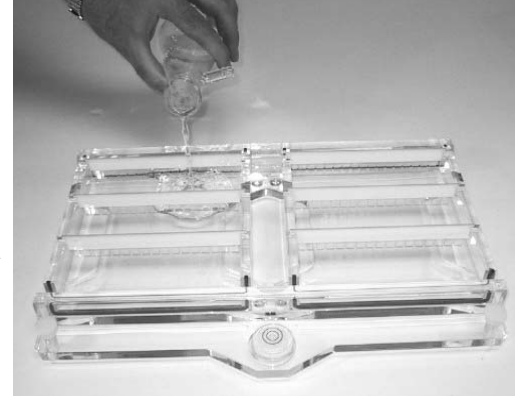

Figure 4-3. Pour/Pipette Agarose
5. Pour or pipette (Figure 4-3) the appropriate amount (see Table 4-2) of warm agarose (<60°F) onto the UVT gel tray that has been placed into the casting position in the casting chamber. Immediately after pouring, insert the desired comb or combs into the comb slots to form the sample wells. Repeat with second gel tray if casting (2) gels. Allow the gel(s) to solidify completely. If a short running distance is required for proper sample separation, then 3 combs may be used. This expands the number of samples per run.
4. Pour or pipette (Figure 4-3) the appropriate amount (see Table 4-2) of warm agarose (<60°F) onto the UVT gel tray that has been placed into the casting position in the casting chamber. Immediately after pouring, insert the desired comb or combs into the comb slots to form the sample wells. Repeat with second gel tray if casting (2) gels. Allow the gel(s) to solidify completely. If a short running distance is required for proper sample separation, then 3 combs may be used. This expands the number of samples per run.